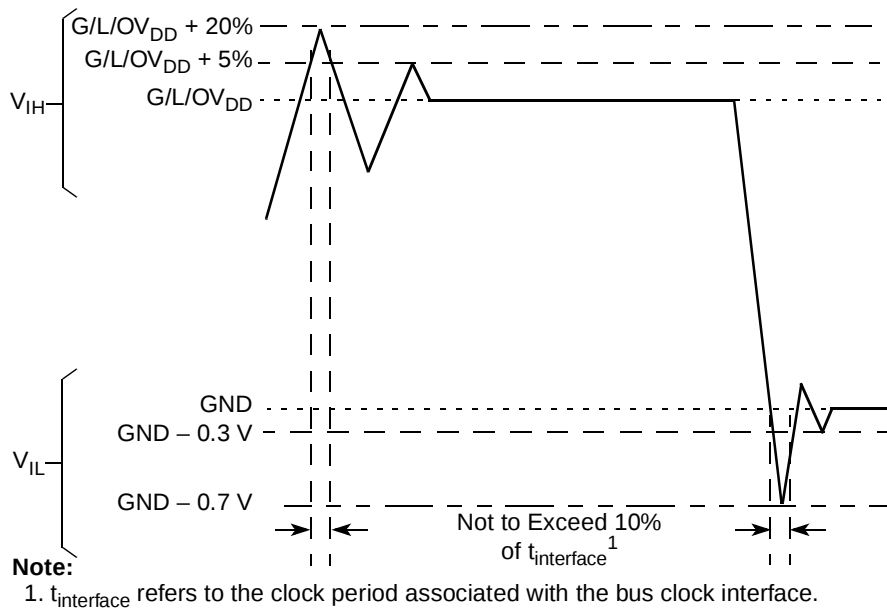

Figure 2. Overshoot/Undershoot Voltage for $GV_{DD}/OV_{DD}/LV_{DD}$
- ⁵ (M,L,O) V_{IN} and MV_{REF} may overshoot/undershoot to a voltage and for a maximum duration as shown in Figure 2.
Figure 2 shows the undershoot and overshoot voltages at the interfaces of the MPC8349E.